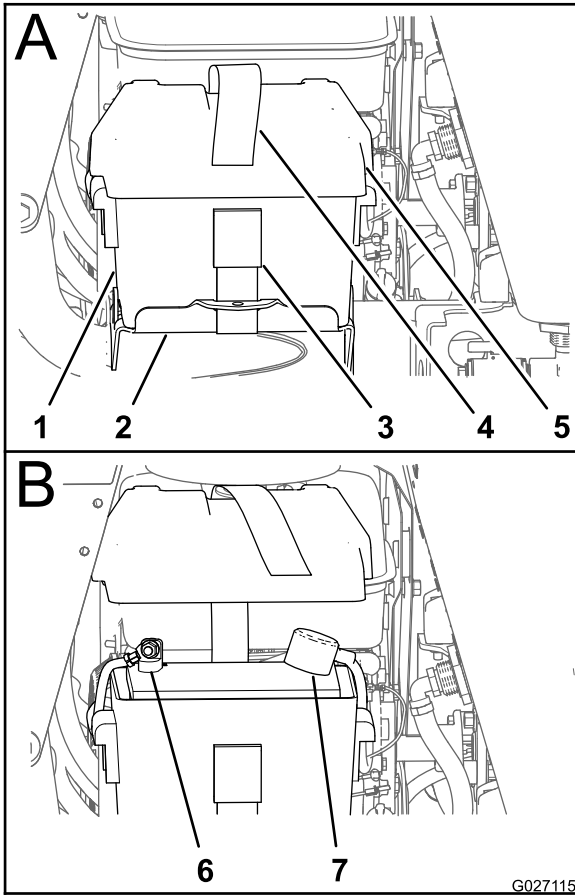

Figure 3
1. Remove the battery cover from the battery box (Figure 3).
2. Install the positive battery cable to the positive (+) battery terminal with a flanged bolt and flanged nut (Figure 3).
3. Install the negative battery cable to the negative (-) battery terminal with a flanged bolt and flanged nut (Figure 3).
4. Install the cover on the battery box and secure the cover and box to the battery tray with the battery strap (Figure 3).